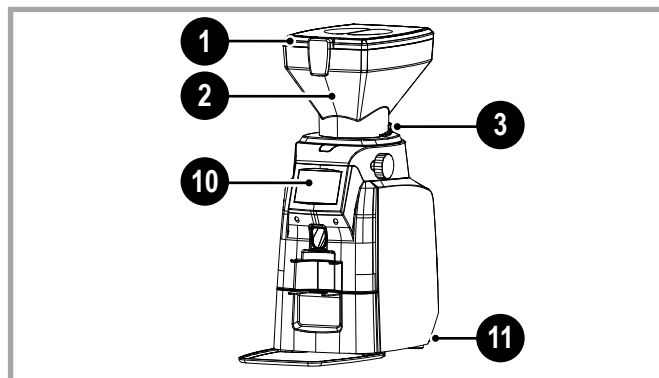

Fig. 6.1 - Daily start-up
For the daily start-up, see Fig.6.1.
- Turn the appliance on by setting the switch (11 - Fig.6.1) to position "1".
- When the grinder-doser is turned on, the display (10 - Fig.6.1) shows the brand icon and then the main screen.
- At the end of the working day, turn the main switch (11 - Fig.6.1) to "0" to turn the appliance off.
- Check the hopper (2 - Fig.6.1) is correctly positioned on the grinder-doser.
- Lift the cover (1 - Fig.6.1) and fill the hopper with coffee beans.
- Pull the shutter (3 - Fig.6.1) outwards to make sure it is completely open.
The grind size index can also be accessed by pressing the relative bar (see 5 - Fig.6.1).